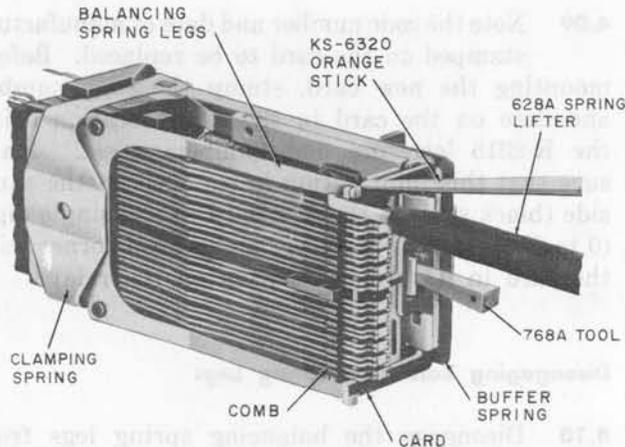

Fig. 6—Disengaging Balancing Spring From Card
- (d) Then draw the lifter forward to the position shown in Fig. 6.